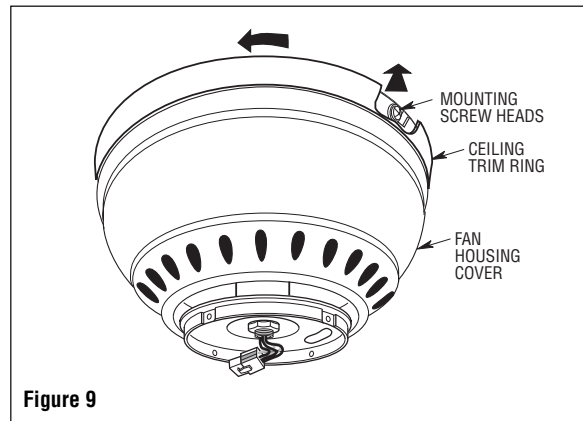

Figure 9
9. Push the trim ring upwards and rotate so that it engages and locks onto the four mounting screw heads of the fan housing cover (Figure 9).